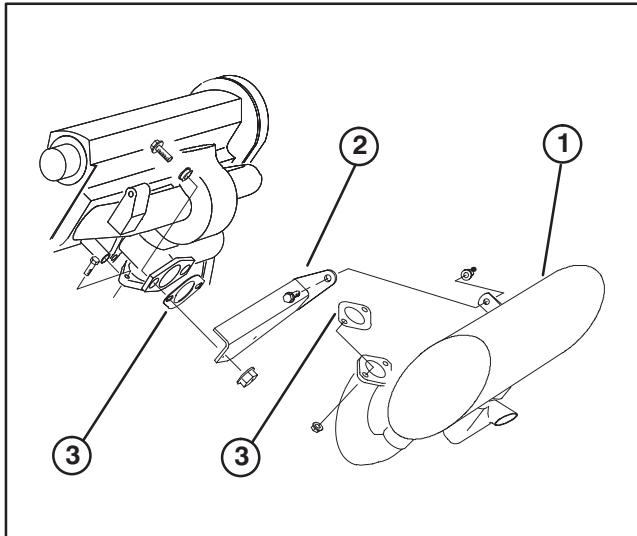

Figure 5
6. Remove muffler, gaskets and muffler bracket from exhaust manifold or engine block (depending on which mounts are used on machine) (Fig. 5).